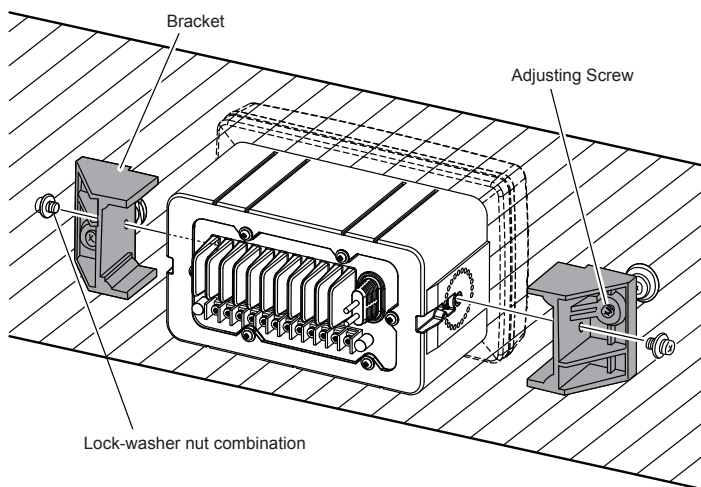

Figure 1. MMB-84 Flush Mount Installation
4. Fasten the brackets to the sides of the VLH-3000A with the lock washer nut combination; so that the mounting screw base faces the mounting surface (see Figure 1).